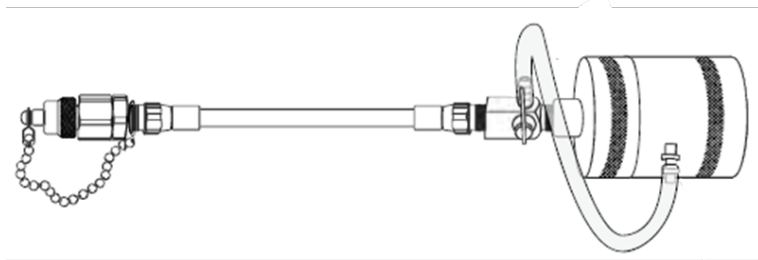

Figure 4: Connecting Bypass Hose
g. Connect the bypass hose from the selector valve to the bypass port on the base (Figure 4). Press the hose down firmly into the port for a tight fit.